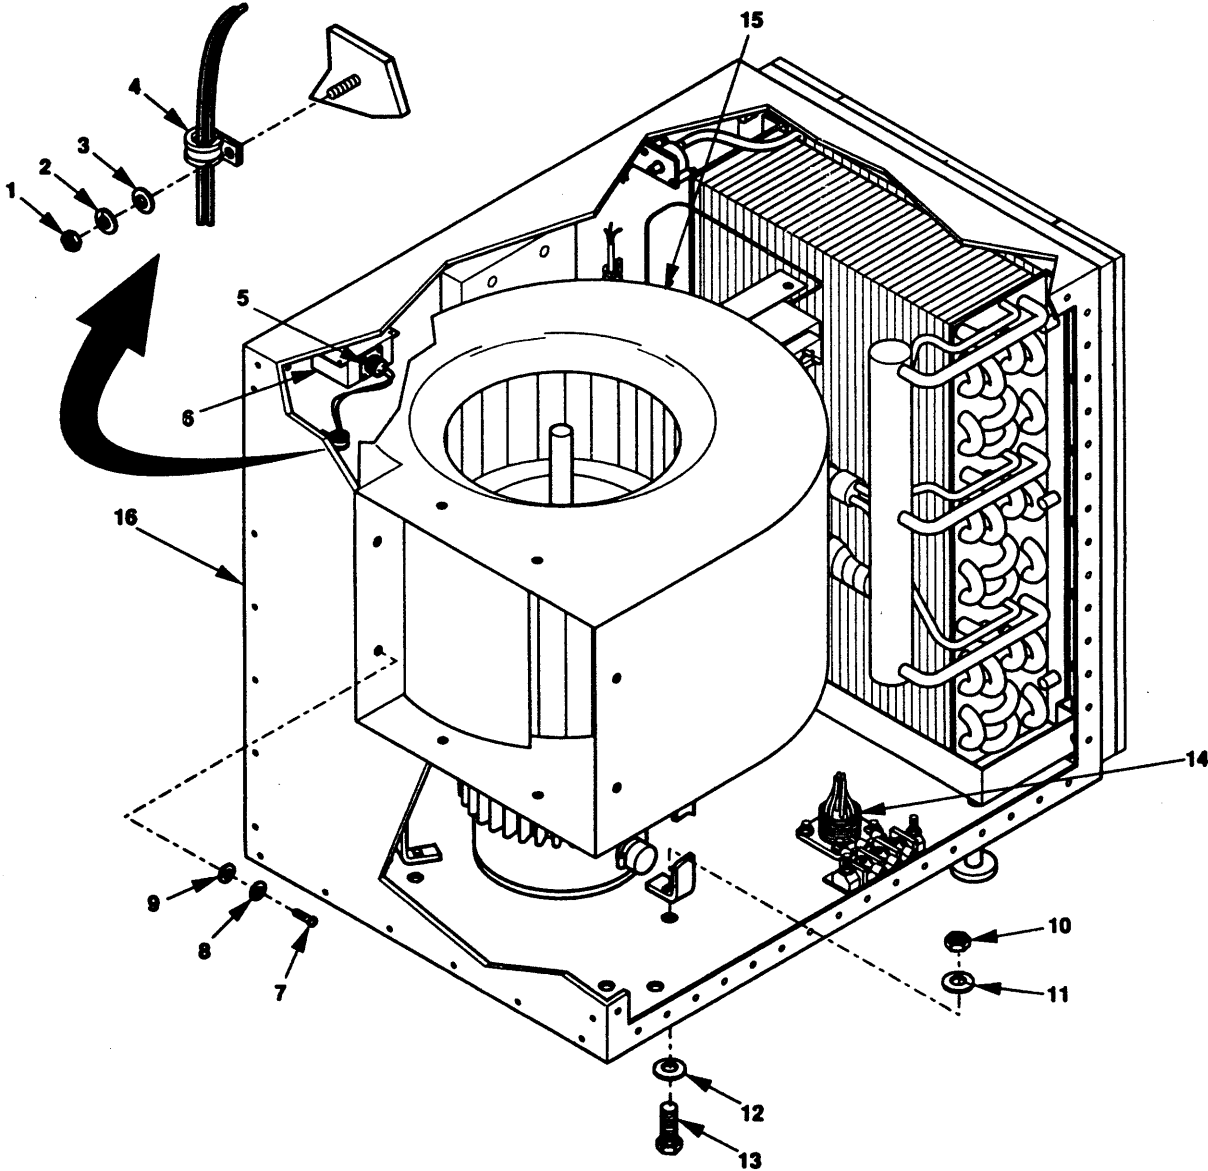
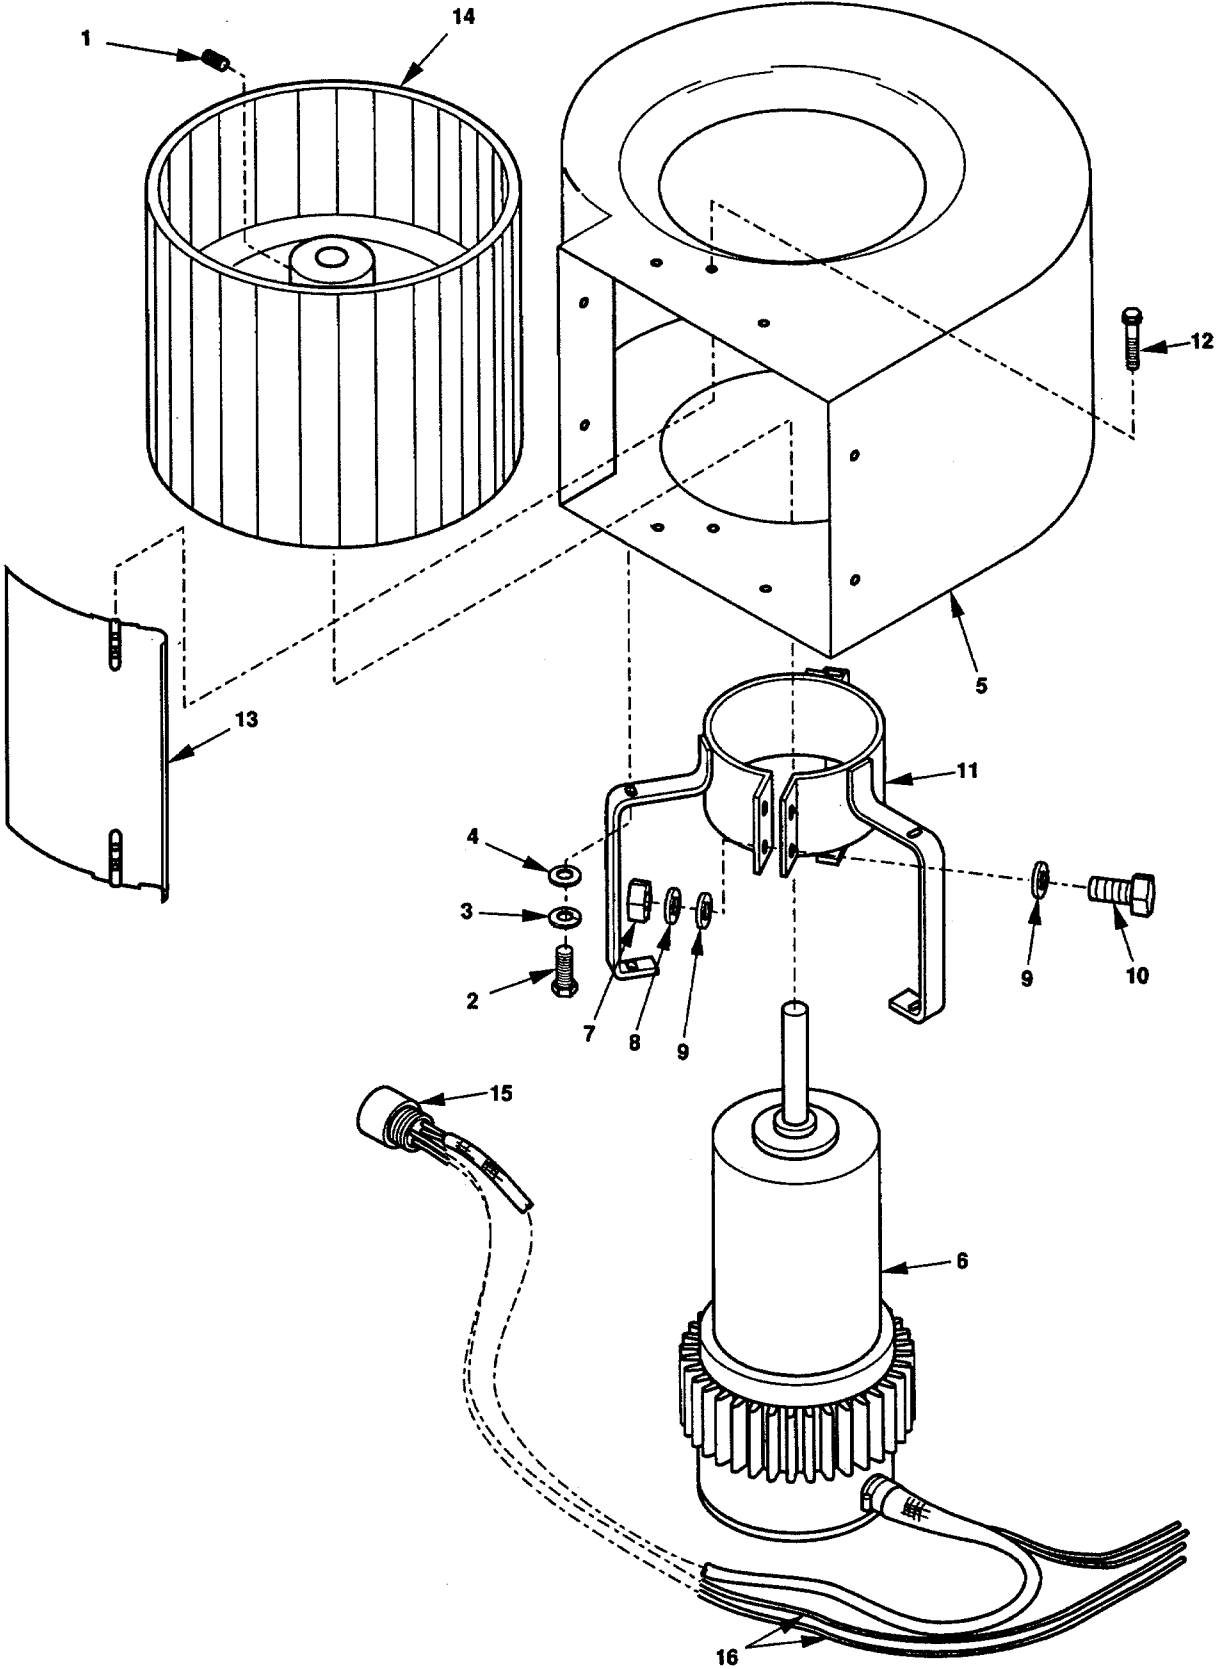

Figure 5-13. Evaporator Fan Assembly Removal.
Figure 5-14. Evaporator Fan Assembly.
- (1) Remove six nuts (Figure 5-13, 1), lock washers (2), flat washers (3), and cushion clamps (4). Discard lock washers (2).
- (2) Disconnect connector A106P2 (5) from EMI Electronic Filter (6).
- (3) Remove eight screws (7), lock washers (8), and flat washers (9). Discard lock washers (8).
- (4) Remove three nuts (10), lock washers (11), flat washers (12), and screws (13). Discard lock washers (11).
- (5) Remove-and discard electrical cable clamp and insulation sleeving and tag -and disconnect four wires from connector A106J1 (14) at positions E, F, K, and L and remove and discard all tiedown straps.
- (6) Remove evaporator fan assembly (15) from evaporator housing (16) and remove adhesive from evaporator fan assembly (15).
- (1) Loosen set screw (Figure 5-14, 1).
- (2) Remove three screws (2), lock washers (3), flat washers (4) and slide evaporator fan housing (5) from evaporator fan motor (6). Discard lock washers (3).
- (3) Remove two nuts (7), lock washers (8), four flat washers (9), two screws (10), and evaporator fan motor (6) from evaporator fan mounting bracket (11). Discard lock washers (8) and remove adhesive from fan motor (6) and evaporator fan mounting bracket (11).
- (4) Remove four screws (12), plate (13), and impeller (14) from evaporator fan housing (5).
- (1) Apply 28vdc across connector A106P2 (15) jacks C and D and check for spinning drive shaft on evaporator fan motor (6). Replace evaporator fan motor (6) if drive shaft does not rotate.
- (2) With 28vdc applied to connector A106P2 (15) jacks C and D, connect wires disconnected from connector A106J1 (Figure 5-13, 14) positions K and L. Spinning of drive shaft on evaporator fan motor (Figure 5-14, 6) should decrease by one half. Replace evaporator fan motor (6) if drive shaft rotation rate does not decrease.
- (3) Test two wires (16) for continuity.
- (1) Refer to tags and install wires in connector A106J1 (Figure 5-13, 14) positions E, F, R, and L.. Remove and discard tags and refer to Appendix F. Figure F-15 for installing electrical cable clamp and insulation sleeving on connector A106J1 (14).
- (2) Position evaporator fan assembly (15) in evaporator housing (16) and secure with three screws (13), flat washers (12), new lock washers (11), nuts (10), eight flat washers (7), new lock washers (6), and screws (5).
- (3) Apply adhesive around evaporator fan assembly (15) and evaporator housing (16).
- (4) Connect connector A106P2 (5) to EMI Electronic Filter (6).
- (5) Install new tiedown straps, located approximately every three inches, and secure wiring harness to evaporator housing (16) with six cushion clamps (4), flat washers (3), new lock washers (2), and nuts (1).
- (6) Follow on maintenance